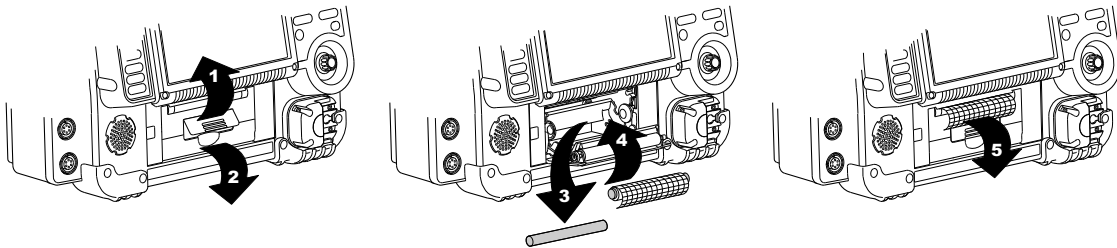

Figure 10-1 Loading Paper
1. Lift the printer door latch to release the door (see Figure 10-1).